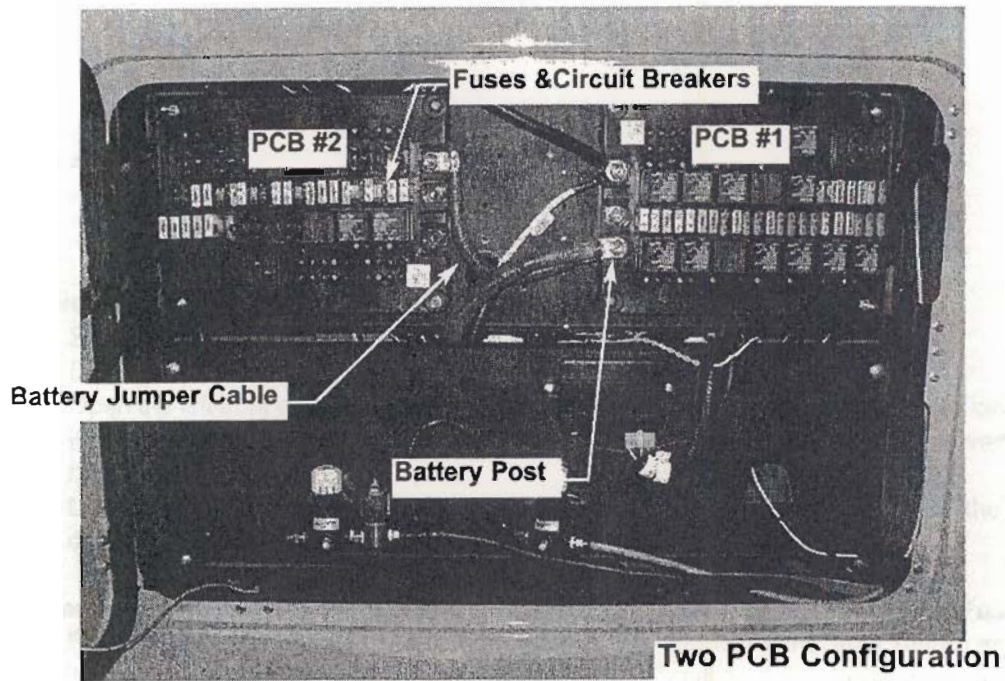
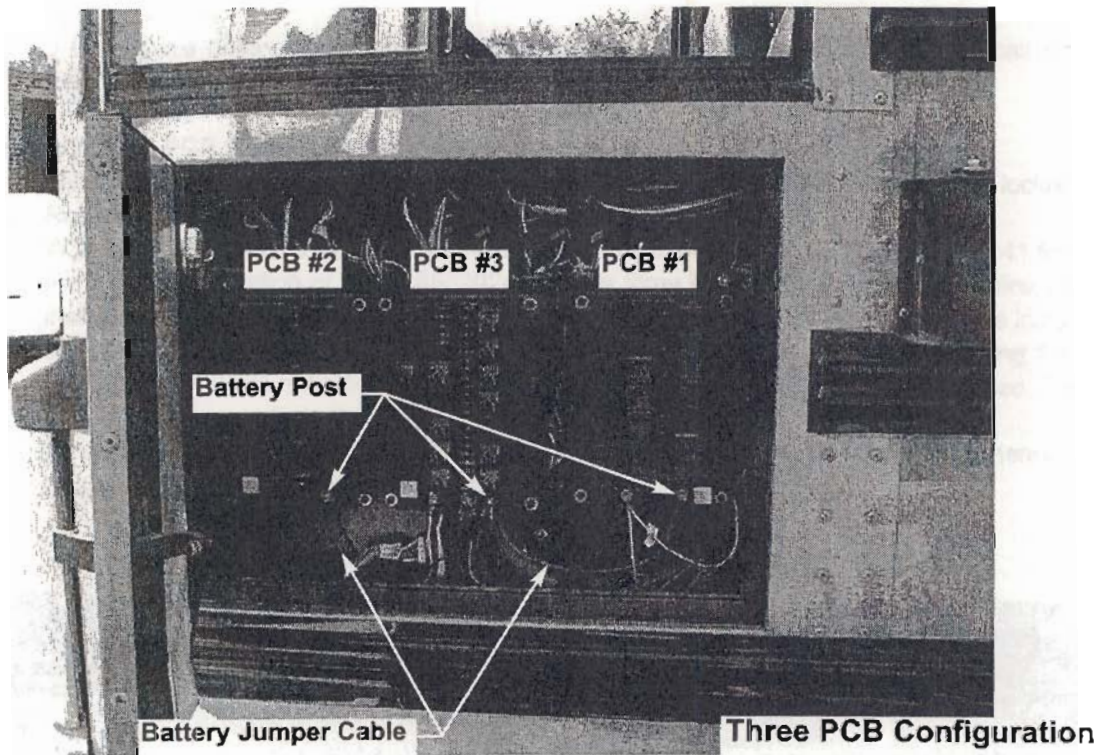

Figure 1
Figure 2
Figure 1 shows the two PCB configuration and **Figure 2** shows the three PCB configuration. These figures are typical configurations and will be used as a reference for parts identification.
2. Remove the PCB Jumper Cable, and discard, see Figures 1 and 2.